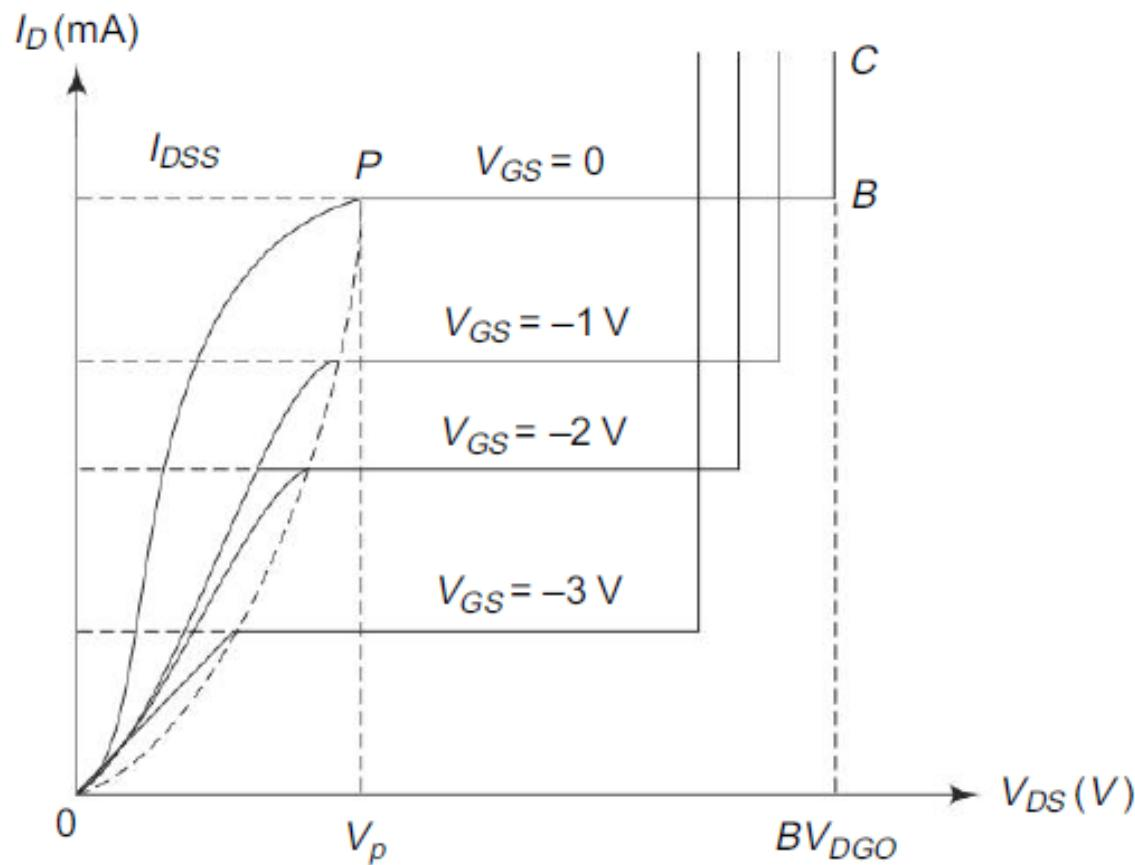

Fig. 13.21 Drain Characteristics
**4. When  $V_{GS}$  is negative and  $V_{DS}$  is increased** When the gate is maintained at a negative voltage less than the negative cutoff voltage, the reverse voltage across the junction is further increased. Hence for a negative value of  $V_{GS}$ , the curve of  $I_D$  versus  $V_{DS}$  is similar to that for  $V_{GS} = 0$ , but the values of  $V_P$  and  $BV_{DGO}$  are lower, as shown in Fig. 13.21.